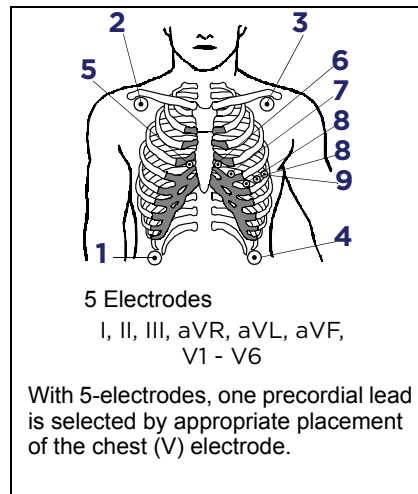

Figure 3-2 Adult electrode placement
- To minimize muscle artifact, place electrodes over flat, non-muscular areas of the body (refer to **Figure 3-2**). This is important for telemetry patients who are usually ambulatory.